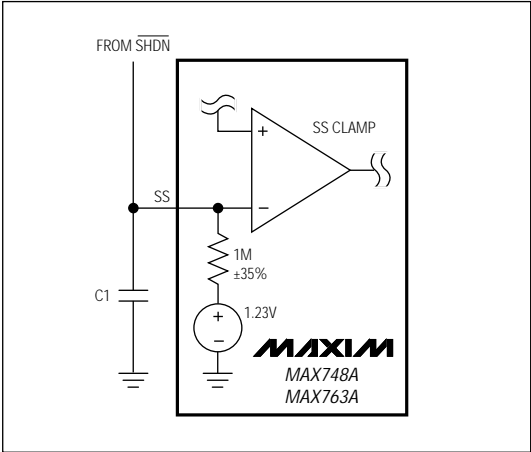

Figure 2. Soft-Start Circuitry Block Diagram
Figure 2 shows a capacitor connected to the soft-start (SS) pin to ensure orderly power-up. A typical value is 0.047 μ F. SS controls both the SS timing and the maximum output current that can be delivered while maintaining regulation.